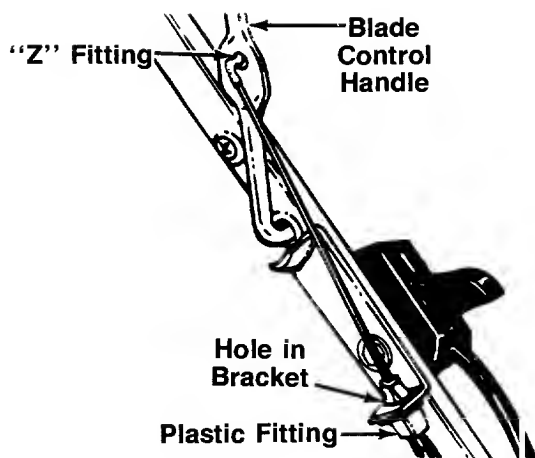

FIGURE 3.
1. The brake cable is attached to the engine, and has a "Z" fitting on the loose end. Route the brake cable below the lower handle. Place end of cable through the hole in the bracket as shown in figure 3. Push the plastic fitting until it locks into the hole in the bracket.
2. Hook the "Z" end of the brake cable into the hole in the blade control handle from the inside to the outside as shown in figure 3.